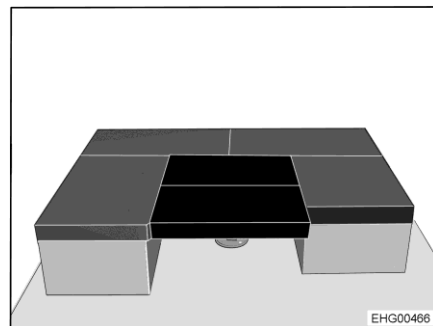

Fig. 159 After conversion
- Place 2 additional cushions transversely on the table (see Fig. 159).